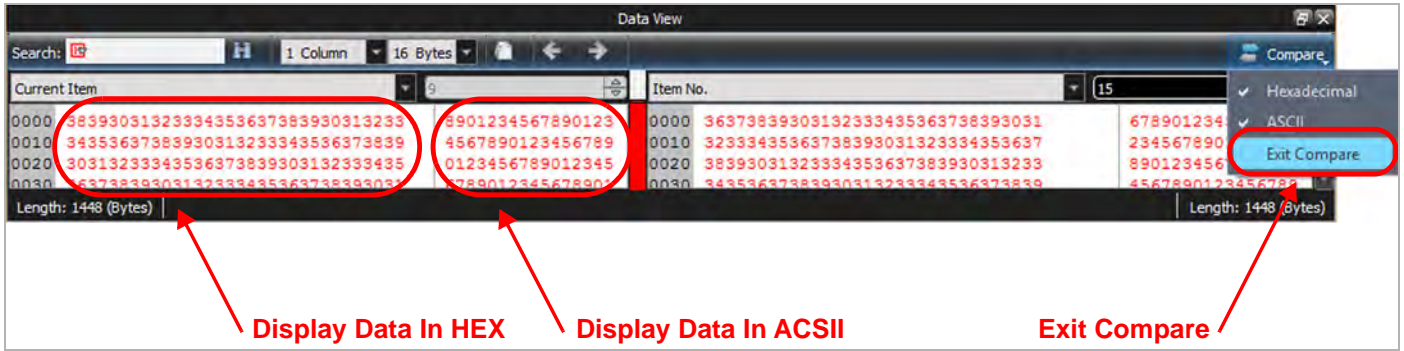

Figure 5.25: Display Data in HEX or ASCII or Exit Compare
- ❑ Display HEX and ASCII. See Figure 5.25.